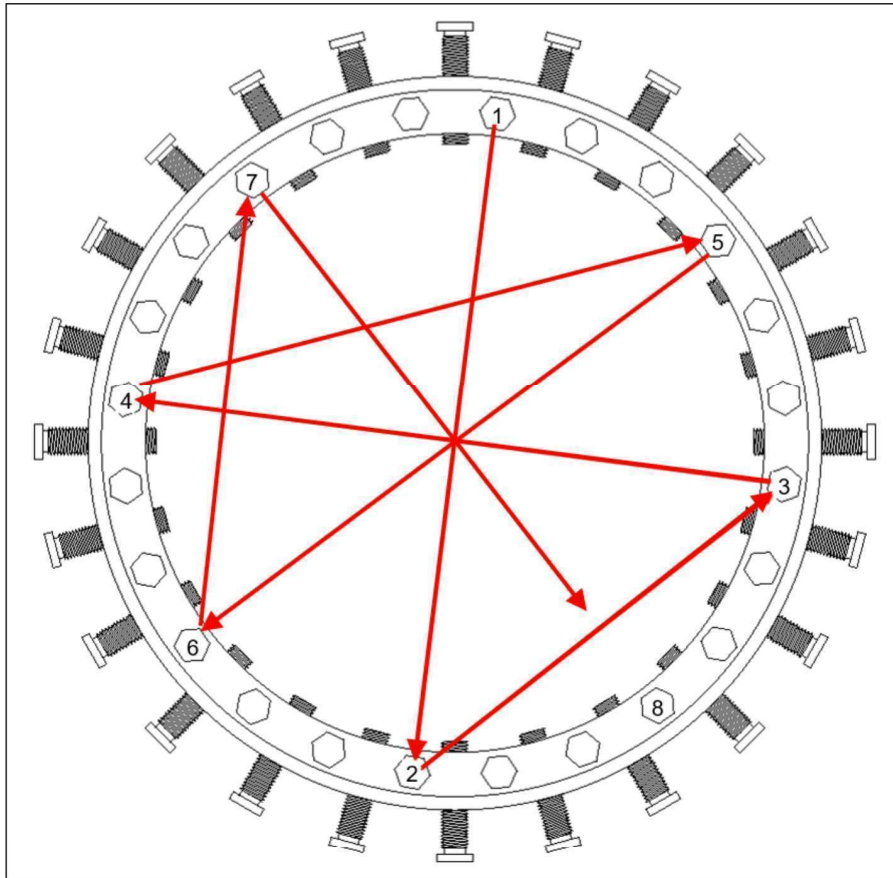
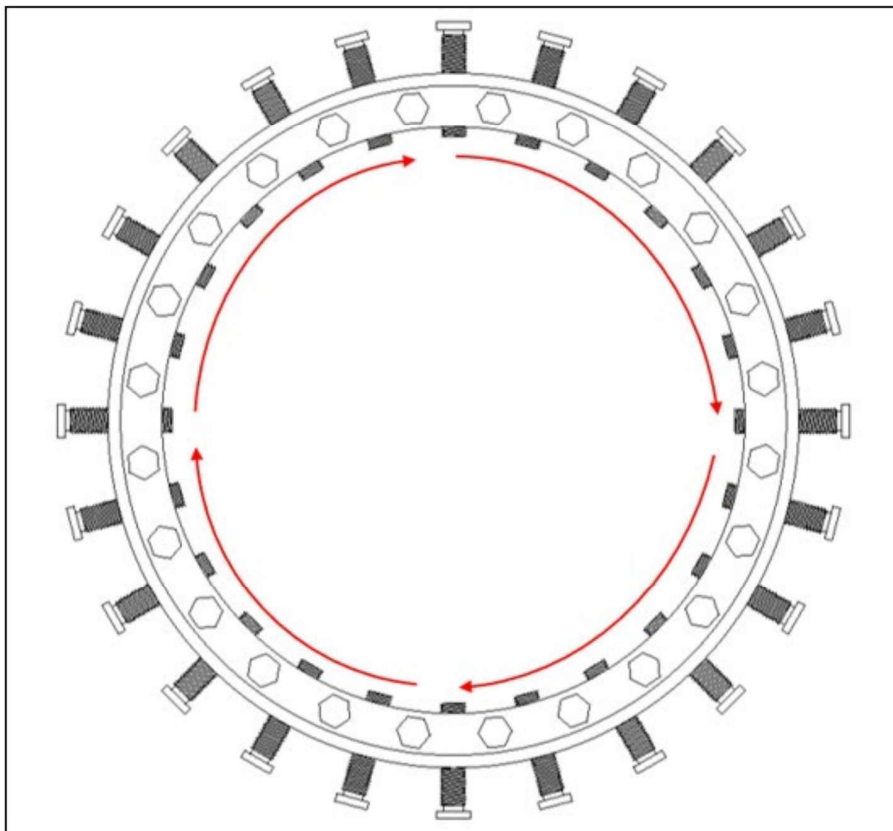

Figure 5
Figure 6
12. Torque the thrust screws one at a time in a repeated crisscrossed star sequence that matches Figure 5. The first time through the sequence, tighten the screws to 25% of the minimum torque. The second time through, tighten the screws to 50% torque. The third time through, tighten the screws to 100% torque. Then, follow a circular tightening sequence that matches Figure 6, at 100% torque, until the thrust screws are unable to continue spinning. Once this is achieved, the next set of thrust screws on the other side of the PLIDCO Weld+Ends can be tightened using this same procedure.